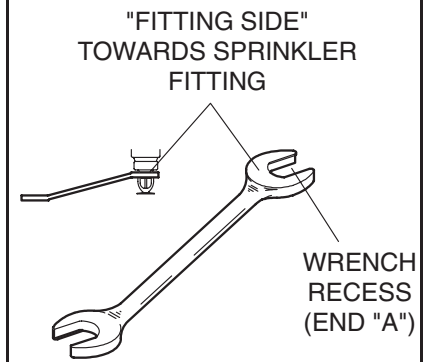

FIGURE 4
Step 3. Wrench tighten pendent sprinklers using only the W-Type 3 (End A) Sprinkler Wrench. Wrench tighten the recessed pendent sprinklers using only the W-Type 4 Sprinkler Wrench. The wrench recess of the applicable sprinkler wrench (Ref. Figure 4 and 5) is to be applied to the sprinkler wrench flats (Ref. Figure 1).